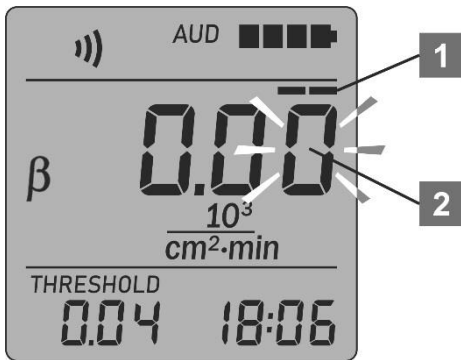

Figure 18 – LCD of the dosimeter
If you keep holding the THRESHOLD button, then during the next two seconds the dosimeter will proceed to the submode of new values programming of alarm threshold level and specified statistical error, and switching on/off audio signaling of detected gamma quanta and beta particles (Figure 18). A stripe (1) “moving” across the instantaneous value indicator and blinking of the low-order digit (2) of a new threshold level serve as an indication of this submode.